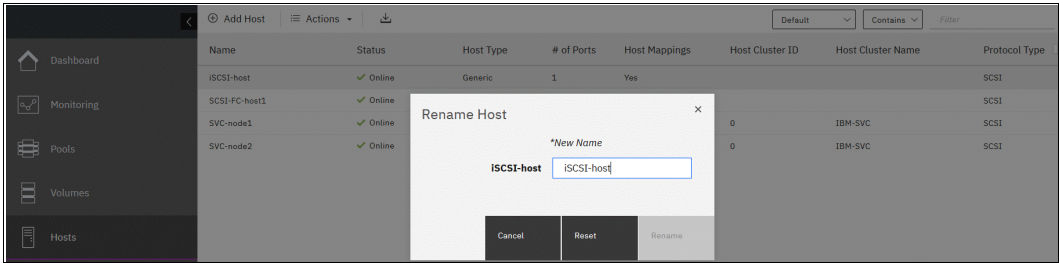

Figure 7-38 Renaming a host
2. Enter a new name and click **Rename** (see Figure 7-38). Clicking **Reset** reverts the changes to the original hostname.